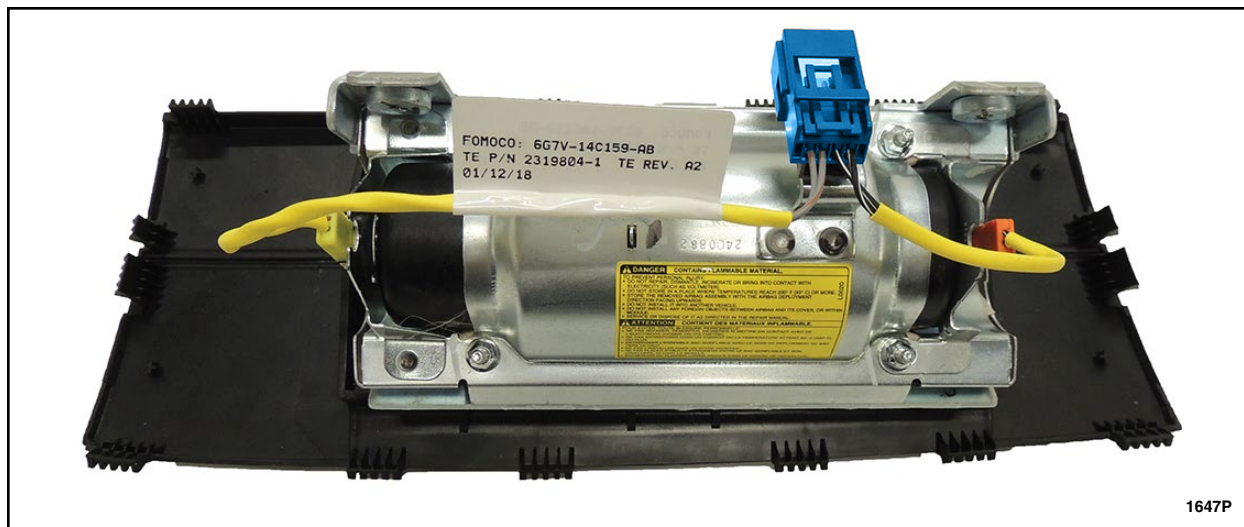

FIGURE 11
13. Align the T-shape index on both the wiring harness electrical connector and the airbag inflator. Install the new wiring harness onto the passenger airbag module and connect to both sides of the inflator. See Figure 11.